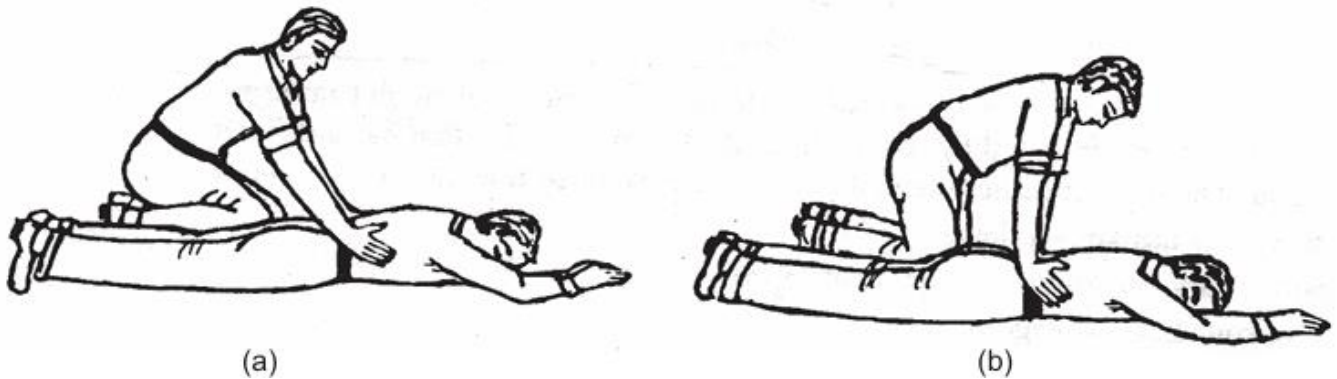

Fig. 1.1 Schafer's method of artificial respiration (a) Lay the victim on stomach (b) Kneeling over the victim
- 1) The victim is laid on the stomach, with his face on one side and pull the arms forward as shown in Figure 1.1 (a).
- 4) Kneel over the victim as shown in figure 1.1 (b) and place both your hands flat on his back. Place your hand in such a manner that both of your thumbs nearly touch each other, and fingers are spread on each side of the victim's lower ribs.
- 5) Lean forward over the victim gradually and gently by putting your weight on the victim for a moment as shown in figure 1.1(b).